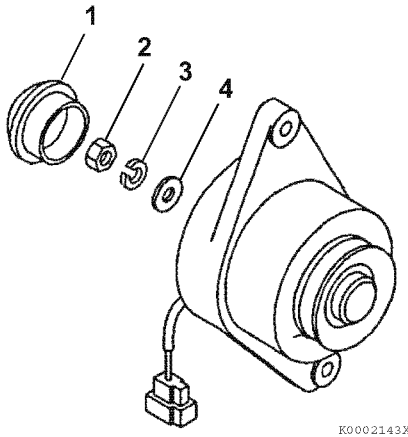

Figure 12-24
1. Remove the rear cover (1, **Figure 12-24**).
2. Remove the nut (2, **Figure 12-24**), lock washer (3, **Figure 12-24**), and flat washer (4, **Figure 12-24**).